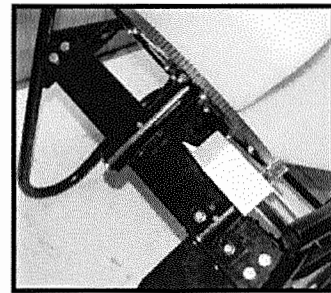

Fig.37: Check for clearance between gears and guard.
- c. Ensure that there is sufficient clearance between drum gear and drive gear and the plastic guard such that the drum turns freely without slipping onto plastic guard. (Fig.37)